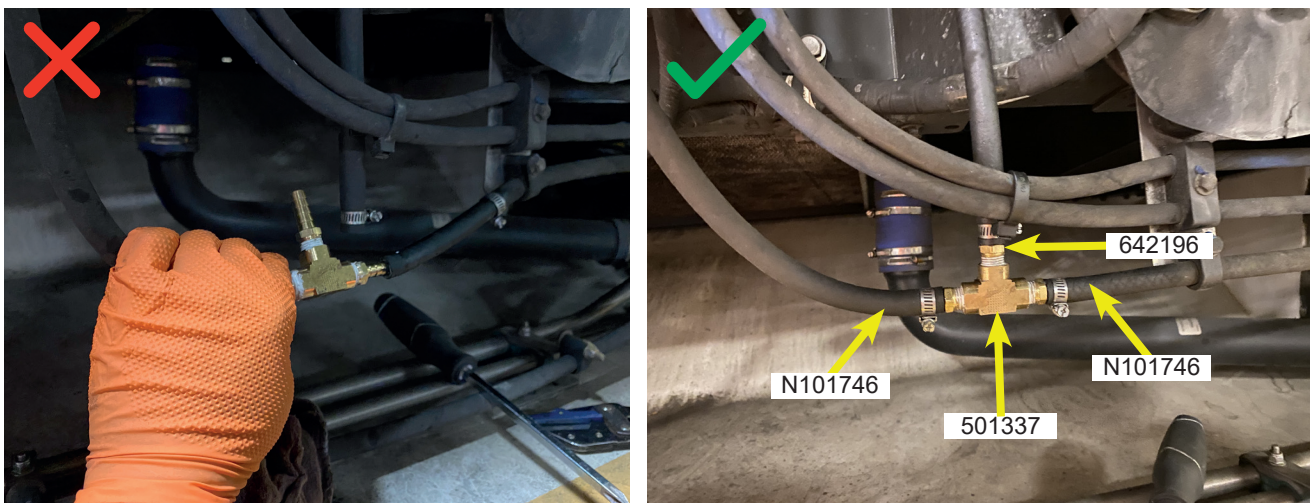

Figure 7 - Installation of T-Fitting Assembly
- 1.13. Install the hose N95062-51 on the relief valve and route it into new mount N93464-13, secure with bolt N16826 and nut N44887 (see figure 7).
- 1.14. Align the hose N95062-51 with existing bottom (black) vent hose and cut all to size accordingly to install the bottom T fitting 501337 with adaptors 642196 and 2x N101746. When securing the T-fitting to the hoses, the hoses must be leveled at a downwards or straight pitch. Do not allow the hose to bend upwards. Left figure not acceptable. Right figure is acceptable (see figure 7).